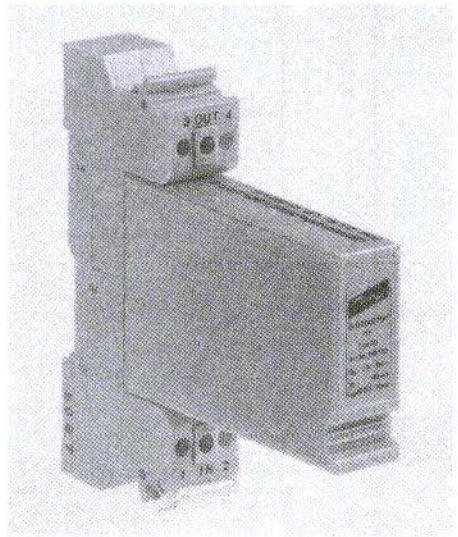
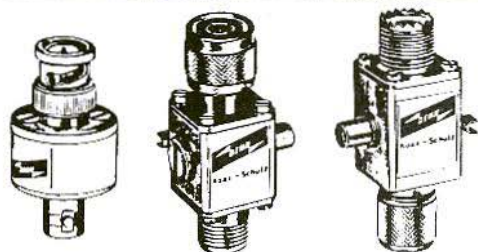

Fig.7: Type LD KT Blitzductor, for
Fig.8:
- Overvoltage protective device, inserted directly into the rotator control circuit before the control unit (CPU) (e.g. Blitzductor KT) - Fig.7 (7)
- Overvoltage protective device inserted directly into the coaxial circuit on radio equipment (e.g. LPN, LPU, LPB or ÜGK) (7)
- The choice here depends on the corresponding connection standard, type BNC, N or UHF (Fig.8). The protective devices can be remote-powered to some extent.